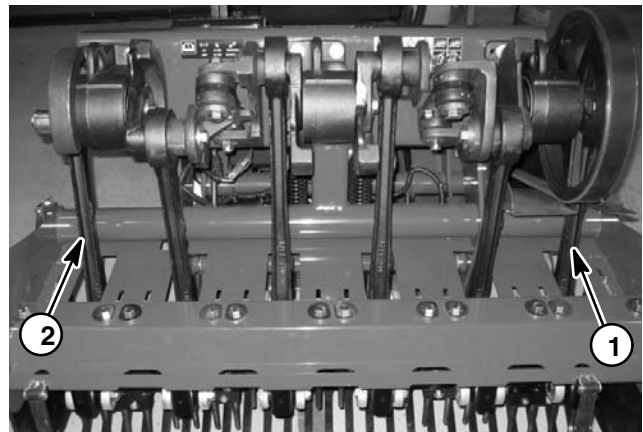

Figure 6
**NOTE:** The six (6) stomper arms used on the ProCore 648 are identical. Coring crankshaft positions are identified as #1 through #6. The #1 position is on the right (pulley) side of the coring crankshaft (Fig. 6).